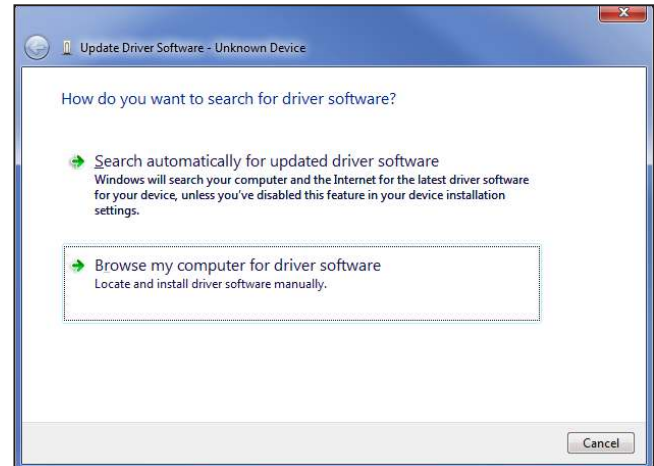

Figure 11. Update Driver Software—Manual Install
- 3) Click **Browse my computer for driver software** to begin the driver installation. See Figure 11.